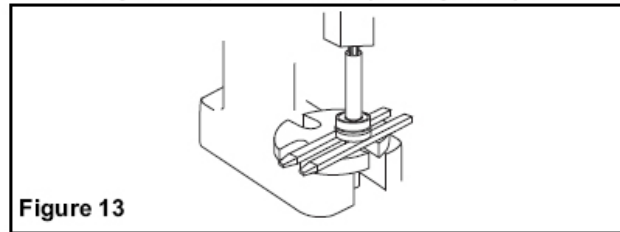

Figure 13
3. To remove the Bearing from the Shaft, place the Shaft (threaded end up) in the arbor press fixture. Place the two support bars provided in the repair kit opposite each other and between the Seal on the Shaft and the arbor press fixture. Using an arbor press, press the Shaft through the Bearing, Seal Spacer and Seal (See Figure 13).